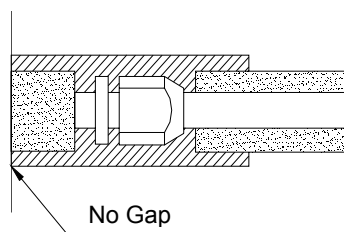

Fig.41
2. The joint connecting to the indoor unit must be wrapped by thermal insulation material. There shall be no gap between the connecting pipe joint and the wall of the indoor unit. Refer to Figure 41.